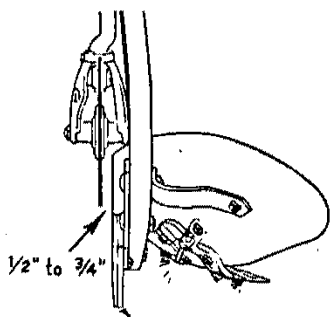

Fig. 16. Properly adjusted coulters are set to cut  $\frac{1}{2}$  to  $\frac{3}{4}$  inch outside the landside.
- b. Coulters should be set  $\frac{1}{2}$  inch to  $\frac{3}{4}$  inch to the left of the landside (fig. 16).